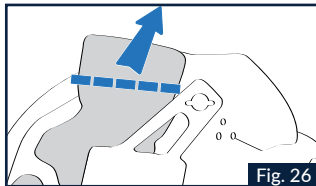

Fig. 26
1.3 Remove the upper part of the pre-punched inner padding (Fig.26), then properly reposition the remaining part of the padding in the cheek pad. It is recommended that you keep the removed padding for any subsequent reuse.
2.3 Properly insert part of the previously removed padding into the cheek pad fabric lining (Fig.26).